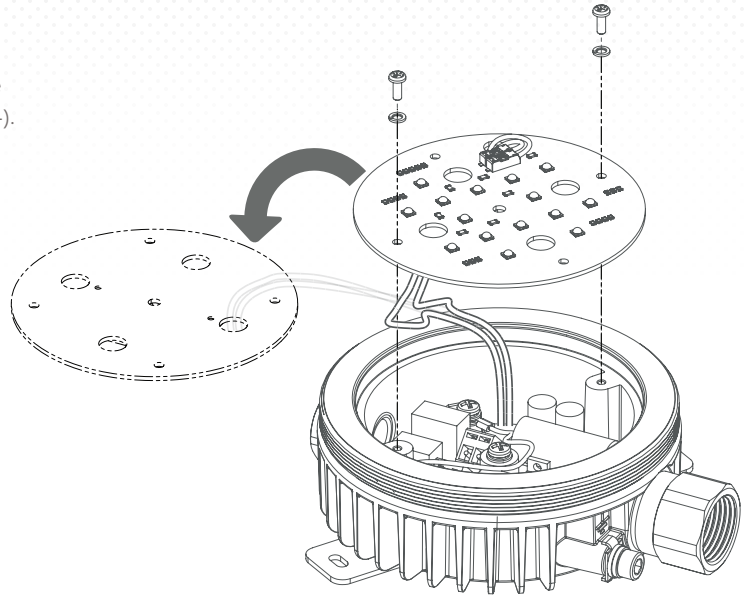

FIG. 4
2. Unscrew (2) two screws along with (2) two washers holding the LED board. Remove the LED board from the luminaire body, providing access to the driver (see Fig. 4).
3. If the Plafond™ fixtures come with pre-installed M20-to-NPT 3/4" or 1/2" (1) one adapter and (1) one plug to be used with end user's Class I Division 1 cable glands, please, follow corresponding cable gland installation manual that comes with those cable glands (see Page 5).